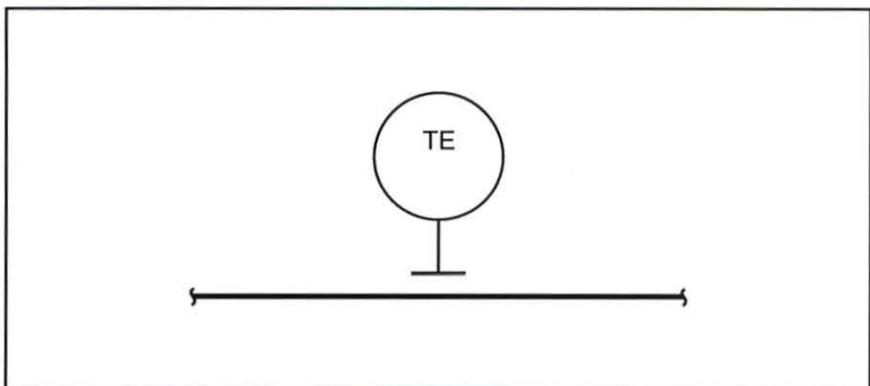

Figure 65. Flow Sensing Element Symbol
4. Determine what type of temperature sensing element symbol is shown in figure 65.